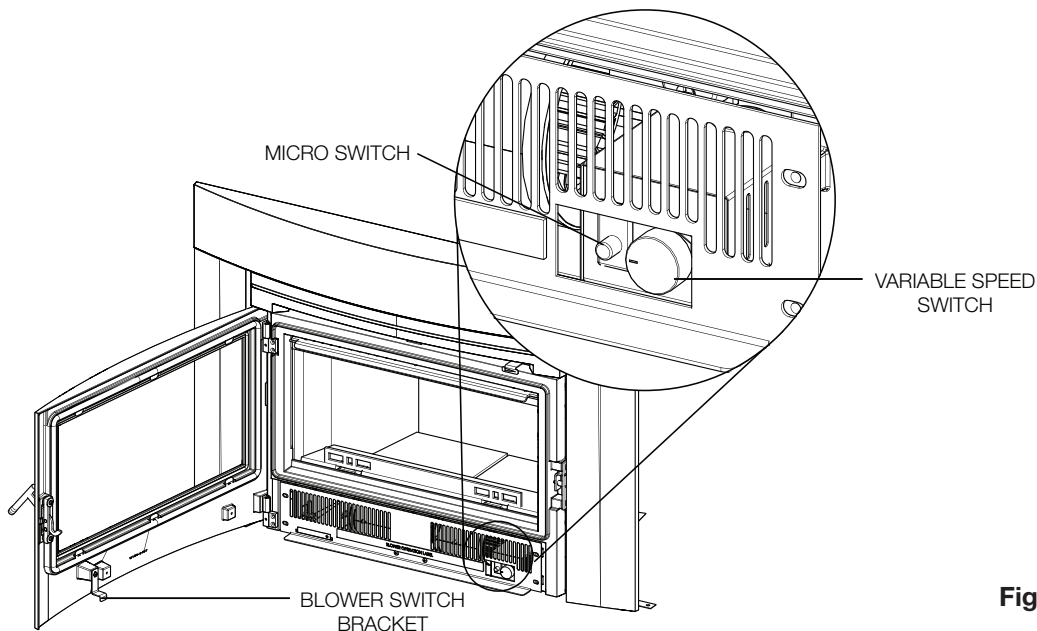

Fig.1
2. It is necessary to depress the micro switch when making adjustments to the blower. When closing the door, ensure the blower switch bracket makes proper contact with the micro (pressure) switch. You should hear a "click" sound (see **Fig.1**).